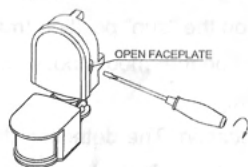

Figure1
- Unload the front cover directly by screw-driver. (figure1). Find the wire hole with gasket in the bottom and pass the power wire through hole.